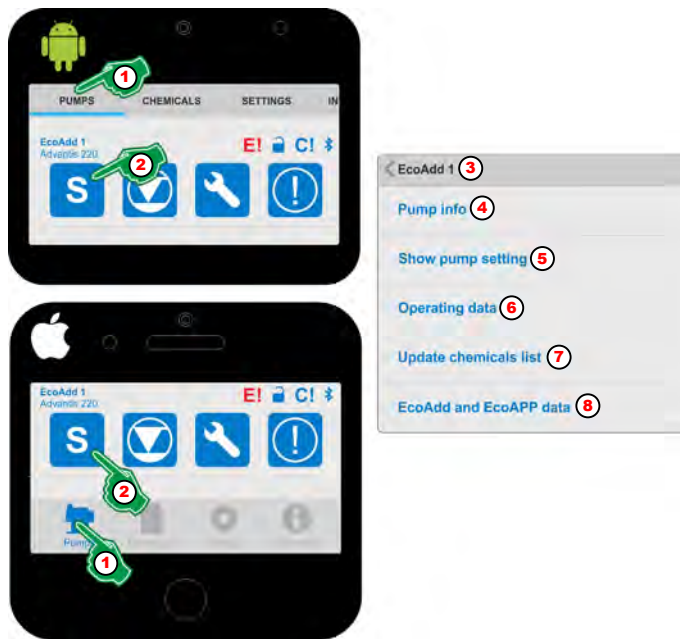

Fig. 21: Export the pump data
1. ➤ Select Menu [Pumps] (Fig. 21 , Pos. 1).
2. ➤ Touch the icon 'Dosing mode' (Fig. 21 , Pos. 2) to enter the pump settings of the selected pump.
3. ➤ Tap the required selection (Fig. 21 , Pos. 4 to Pos. 8).